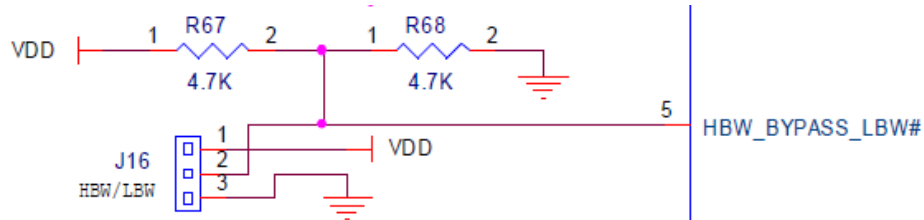

Figure 3. HBW_BYP_LBW# Schematic Configuration
5. The 100M_133M# and HBW_BYB_LBW pins need to be hardware selected with jumpers. See Figures 3 and 6.